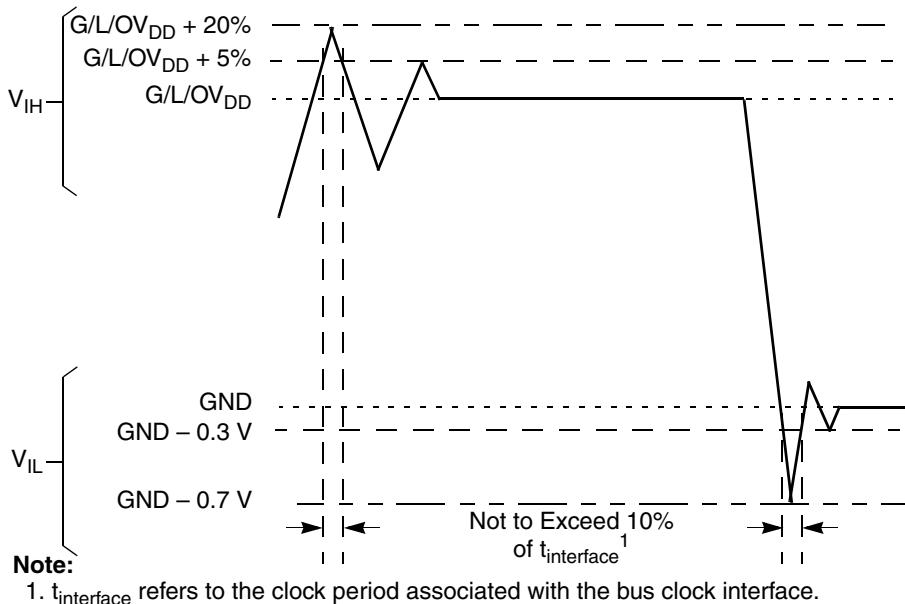

Figure 2. Overshoot/Uncertain Voltage for GV_{DD}/OV_{DD}/LV_{DD}
- (M,L,O)V_{IN} and M_V_{REF} may overshoot/undershoot to a voltage and for a maximum duration as shown in Figure 2.
Figure 2 shows the undershoot and overshoot voltages at the interfaces of the MPC8347EA.